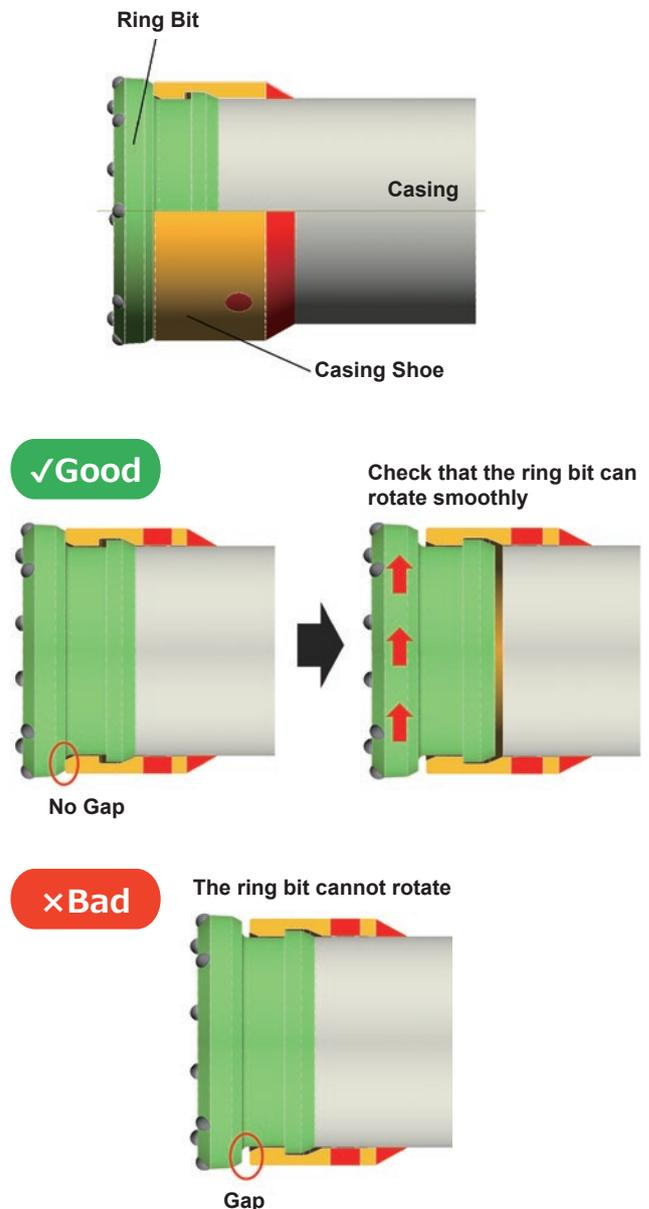

Figure 7 : Big Bore ring sets attachment and welding
2. Put the ring sets (the casing shoe and the ring bit) to the casing. Be sure the casing shoe is in the center of the casing pipe and there is no gap between the ring bit and casing shoe to make the ring bit rotate smoothly. **See Figure7.**
Be sure that the ring bit can rotate smoothly (rotate by hands) after welding. **See Figure7.**